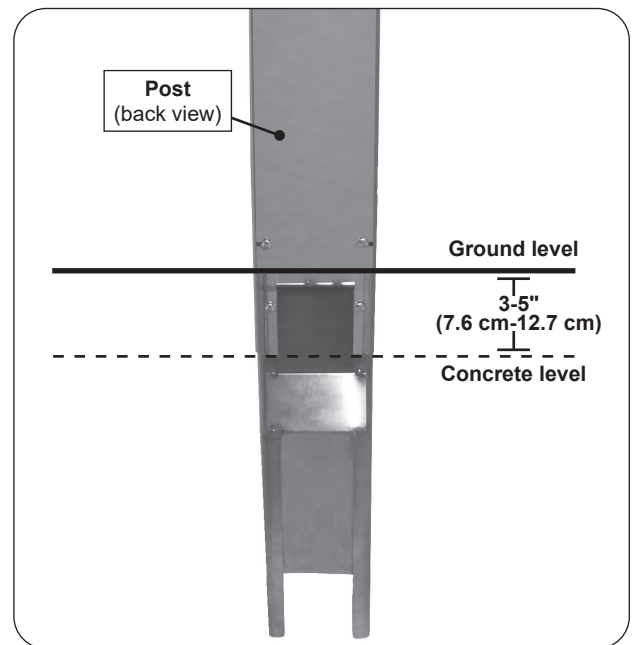

Fig. 11-3 Pour concrete & install post
4. While the concrete is still wet, carefully lower the extended grill post into the hole (see Fig. 11-3).